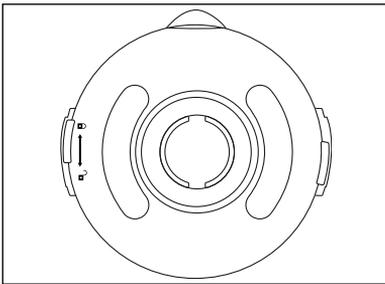

Fig. 2
- 4) Press the lid **2** firmly down onto the blender **3**. Close the lid **2** by turning it clockwise to position  until it audibly engages (see Fig. 2).